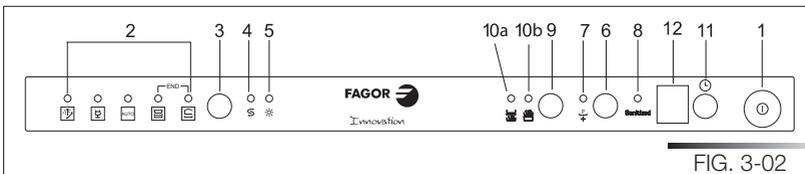

FIG. 3-02
The dishwasher is equipped with a control panel (see fig. 3-02) which is used to program the appliance and switch it on and off.
To run programs **6, 7, 8, 9, 10** (see table 3-02b), select the required standard program (see programs **1, 2, 3, 4, 5** in table 3-02a) and then press the **supplementary program button** (ref. 6 fig. 3-02).
Press the on/off button (ref. 1 fig. 3-02) to start the dishwasher. Then wait for one of the **program indicator lights** to turn on (ref. 2 fig. 3-02).
- Press the **program selection button** (ref. 3 fig. 3-02) several times until the indicator light corresponding to the required program turns on (ref. 2 fig. 3-02);
The supplementary program button (ref. 6 fig. 3-02) adds **five extra programs** to the ones that can be directly selected with the program selection button. Press the supplementary program button (the indicator light turns on) **after** selecting the “main” program (see 1, 2, 3, 4, 5 in table. 3-02a). As the function **is memorized**, press the button again (the indicator light turns off) if you wish to run one of the 5 main programs for the next cycle.
- To cancel the current program, open the door and press and hold down the **program selection** button (ref. 3 fig. 3-02) for a few seconds until the indicator lights of the fourth and fifth programs turn on (ref. pr. 4, pr. 5 fig. 3-03).
The half-load wash cycle can be selected in two different ways using the **half-load wash** button (ref. 9 fig. 3-02):
- press the button **once** to select washing in the **upper rack**. This is confirmed by the appropriate indicator light (ref. 10a fig. 3-02);
- press the button **twice** to select washing in the **lower rack**. This is confirmed by the appropriate indicator light (ref. 10b fig. 3-02);
Before programming a delay, open the door of the dishwasher, select the required washing program (see para 3.2 “Setting the washing program and switching it on and off”). Select the day by pressing the **Program delay** button (ref. 11 fig. 3-02); each time you press the button, the display increases the delay by **1 hour** before the appliances starts.
At the end of the program, the dishwasher sounds a short beep and the **indicator lights of the fourth and fifth program** (ref. pr. 4, pr. 5 fig. 3-04) flash. Turn off the appliance by opening the door and pressing the **on/off button** (ref. 1 fig. 3-02).